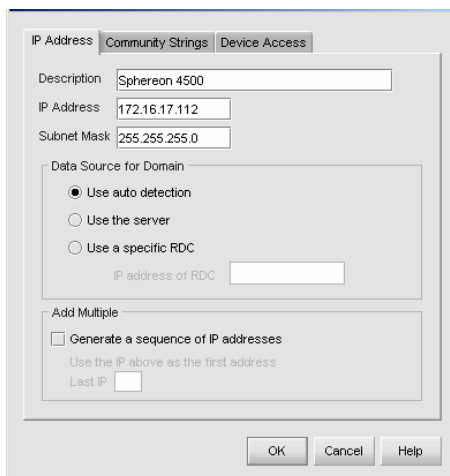

Figure 3-31 Domain Information Dialog Box (IP Address Page)
- e. Click *Add*. The *Domain Information* dialog box displays with the *IP Address* page open (Figure 3-31).